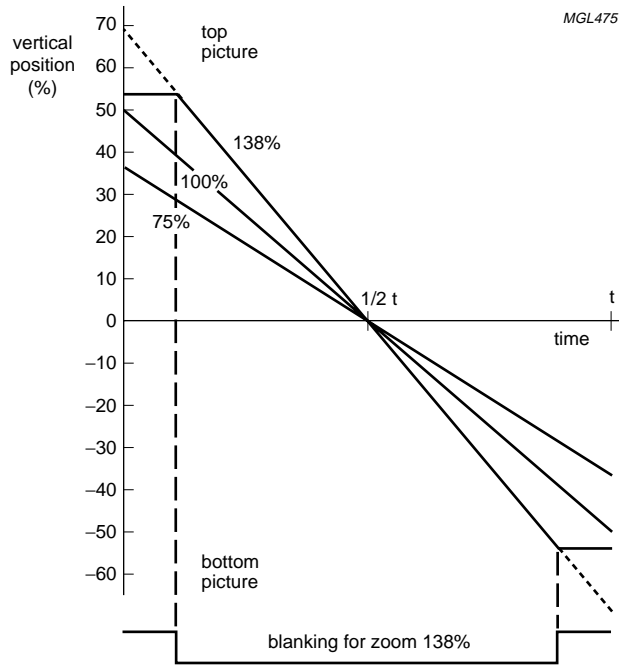

Fig.14 Vertical drive waveform and blanking pulse for different zoom factors.
44. The ICs have a zoom adjustment possibility for the horizontal and vertical deflection. For this reason, an extra DAC is included in the vertical amplitude control, which controls the vertical scan amplitude between 0.75 and 1.38 of the nominal scan. At an amplitude of 1.05 times the nominal scan, the output current is limited and the blanking of the RGB outputs is activated, see Fig.14. In addition to the variation of the vertical amplitude, the picture can be vertically shifted on the screen via the 'scroll' function. The nominal scan height must be adjusted at a position of 19H (25 DEC) of the vertical 'zoom' DAC and 1FH (31 DEC) for the vertical 'scroll' DAC.